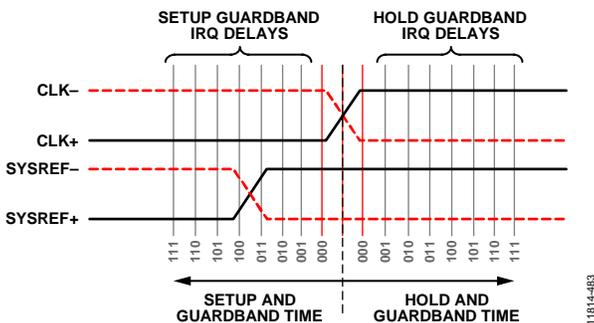

Figure 78. SYSREF± Edge Falls Within the Guardbanded Setup Time Window and Triggers an IRQ Error
In Figure 78, the SYSREF± edge meets the default setup and hold time of the clock, but would trigger an IRQ event only if certain setup time guardband delays were used. For this figure, all of the setup guardband delays that would place the SYSREF± crossing edge between it and the dotted black line would incur an IRQ event equal to 1. All other settings would be 0. Because
**Table 21. IRQ Outcomes for All Setup or Hold Guardband Settings for the Case in Figure 78**